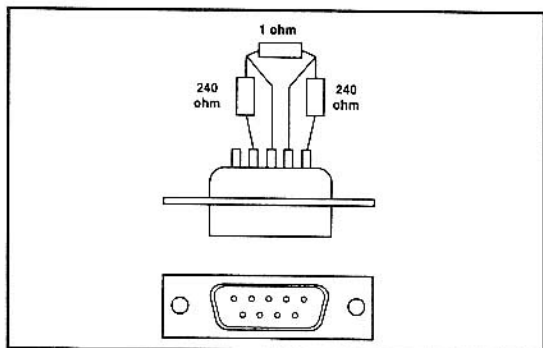

Figure 8: Calibration Fixture
- Calibration fixture. Refer to *Figure 8*.
5. Remove the sensor connector and replace it with the calibration fixture. Refer to *Figure 8*.
A calibration fixture must be fabricated to provide access to the VERSATORQ sensor connector during meter calibration. Three resistors are installed onto a DE9P connector. Refer to *Figure 8*.